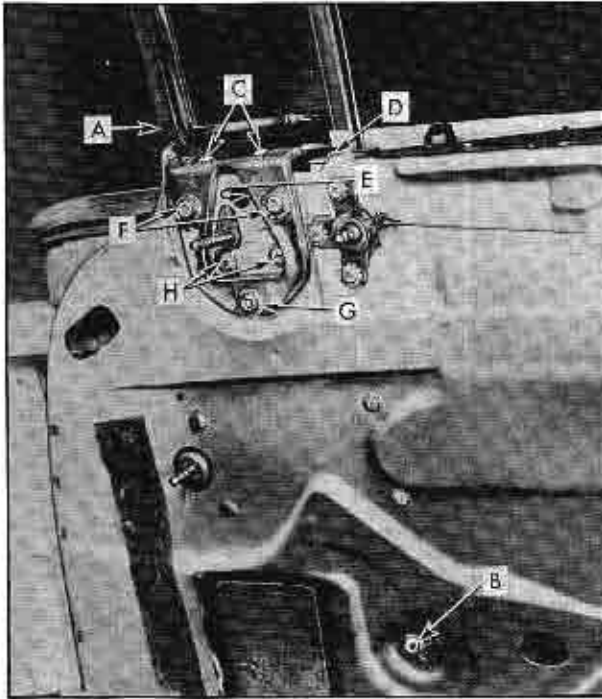

Fig. 3-34 Ventilator Assembly Adjustment (6237)
2. To adjust assembly in or out, loosen adjusting stud nuts "B" and "C" and attaching bolts "F", Fig. 3-34. With screw driver, turn adjusting studs in or out depending on adjustment desired. When adjustment is completed, tighten nuts and bolts.
1. Break seal of upper and lower hinge pillar weatherstrips at butt joint "A", Fig. 3-34. Loosen remainder of lower hinge pillar weatherstrip from ventilator frame.